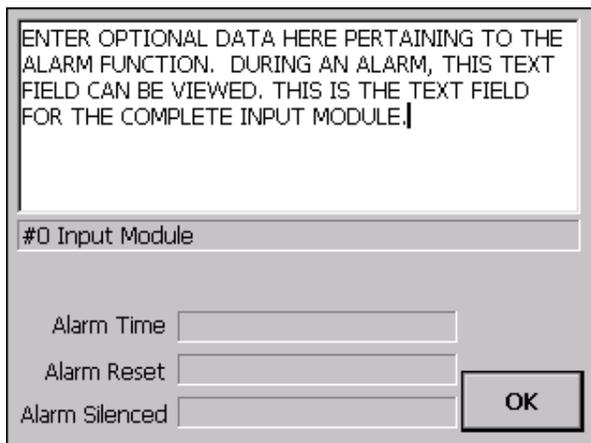
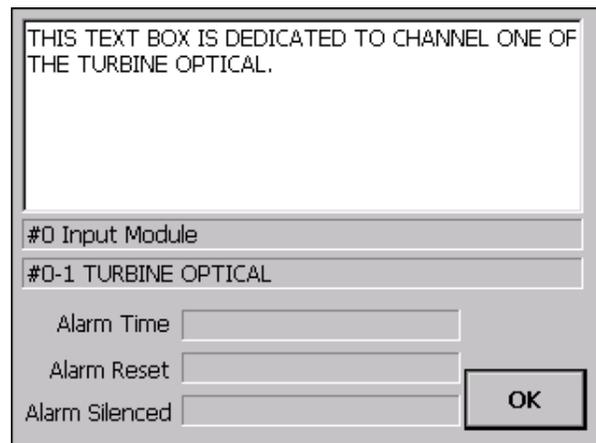

FIGURE 9.3 EDIT box for global node name.
FIGURE 9.4 EDIT box for channel 1.
□ The EDIT button just below the COMMENT column allows a message for this node as indicated in figure 9.3. **During an alarm** this EDIT box can be quickly viewed at the alarm screen. The remaining four EDIT buttons to the right of the ALARM LOCATION allows messages (figure 9.4) for each of the four channels or any other relative information; however, this data is for reference storage and can be viewed by selecting the F5 key to enter the node screen. Each field can accommodate up to 256 characters. Unused channels do not require filling in the fields and can be left undefined.